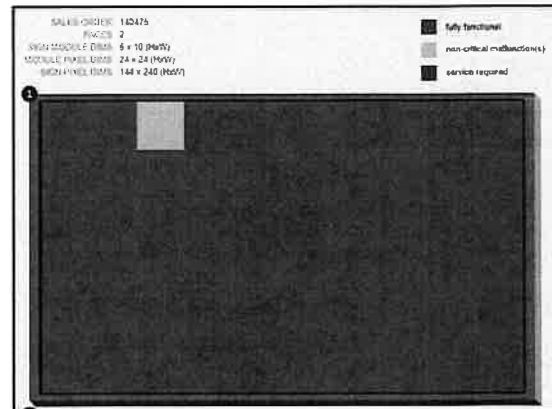

Figure 1 • Graphic diagnostic display.
- Sign diagnostics displays the report in both text and graph format. The graph representation of the sign highlights malfunctioning LED modules (see Figure 1).